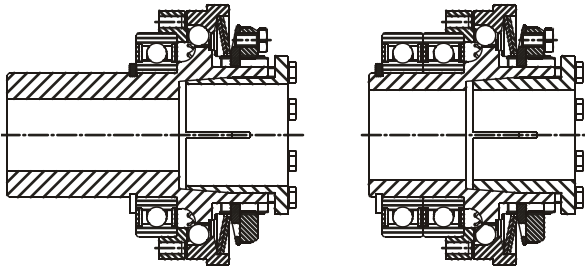

Fig. 2
The EAS[®]-Compact[®] with a long protruding hub (Type 490__1 / Fig. 2) is recommended for extremely wide output elements, or for elements with small diameters. On very small diameters, the output element is screwed together with the clutch pressure flange (2) via a customer-side intermediate flange.
In case of increased radial forces, a 2-bearing design (Type 490__2 / Fig. 2) should be used.